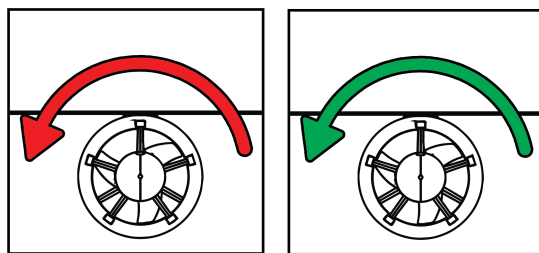

Figure 34: HyDrone™ ASV Prop Rotation
- Motor must rotate counterclockwise(CCW) (Figure 34)